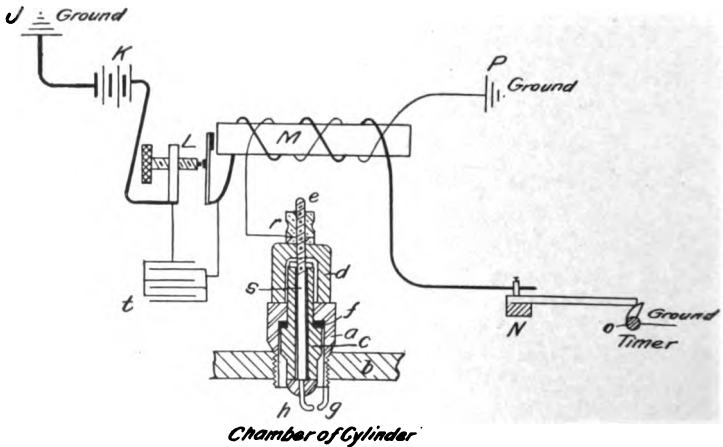

FIG. 32.—Single Cylinder Jump Spark Ignition Showing Details of Spark Plug.
**Jump Spark.** This system requires among other things a spark plug, which is shown in the circuit in Fig. 32. A current of high potential is made to jump across a gap between two terminals of the spark plug. This plug, which is screwed into the cylinder head, has its gap surrounded by the compressed mixture at the moment of ignition. Closing the circuit causes the
A Single Cylinder Ignition Circuit is shown in Fig. 32. The spark plug is screwed into the cylinder head *b*. The plug consists of the steel casing *a* which screws into the cylinder head *b* and thus the terminal *g* is grounded at the engine. The other terminal *h* is insulated from the rest of the plug by the porcelain collars *c* and *d*; *f* is a gastight washer of asbestos. These collars and washers are made in a va-
current. Connecting *a* and *d*, the current goes from the battery direct to the primary of the coil. Connecting *c* and *d* the voltage of the battery can be read by a volt-ammeter in the circuit. The secondary circuit *s* is similar to that shown in Figs. 32 and 33.